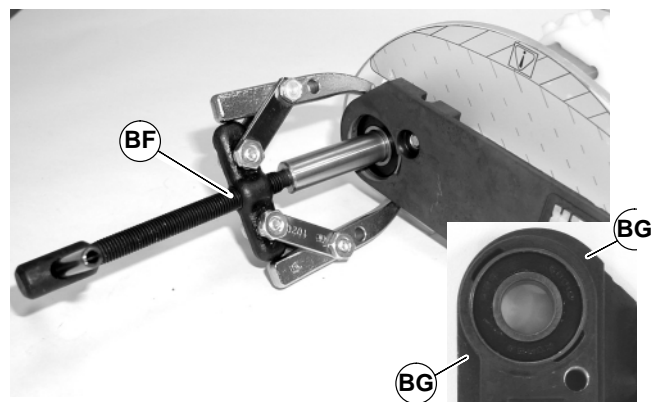

Figure 38
- With bearing removal tool, (BF of Figure 38), part number 807-1078, remove head plate from drive shaft side of pulley. Connect tool jaws at indicated points (BG).